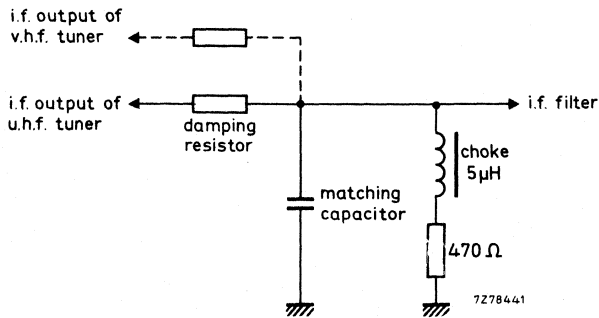

Fig. 9.
The tuner needs a d.c. path from the i.f. output terminal (10) to earth, preferably via a choke of approx. 5 μH outside the tuner (Fig. 9). Where the tuner is used in combination with a v.h.f. tuner, this choke can be common for both tuners; a resistor in series with the choke can make ineffective the i.f. output circuit of the switched-off tuner. For damping the i.f. output circuit and matching the i.f. output impedance of the tuner to the i.f. amplifier, a series resistor and a parallel capacitor as shown in Fig. 9 should be used.